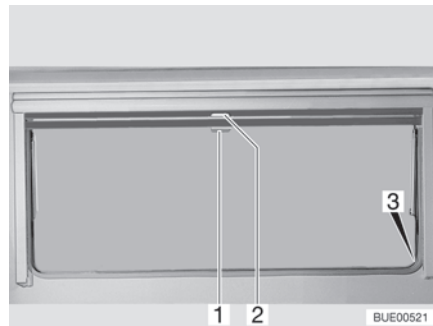

Fig. 73 Hinged window
- Pull blind at the handle (Fig. 73,2) downwards. If the blind is to be completely closed, it is suspended into the locking devices (Fig. 73,3) situated on both sides of the window frame.
- If the blind is completely closed: Press handle (Fig. 73,2) downwards and, at the same time, tilt it slightly inward. The blind can be taken out of the locking devices situated on both sides of the window frame.
- If the blind is in an intermediate position: Pull the handle (Fig. 73,2) slightly downwards until the locking device releases.
- Pull insect screen at the handle (Fig. 73,1) down and hang it into the locking devices (Fig. 73,3) situated on both sides of the window frame.
- Press handle (Fig. 73,1) downwards and, at the same time, tilt it slightly inward. The insect screen can be taken out of the locking devices situated on both sides of the window frame.